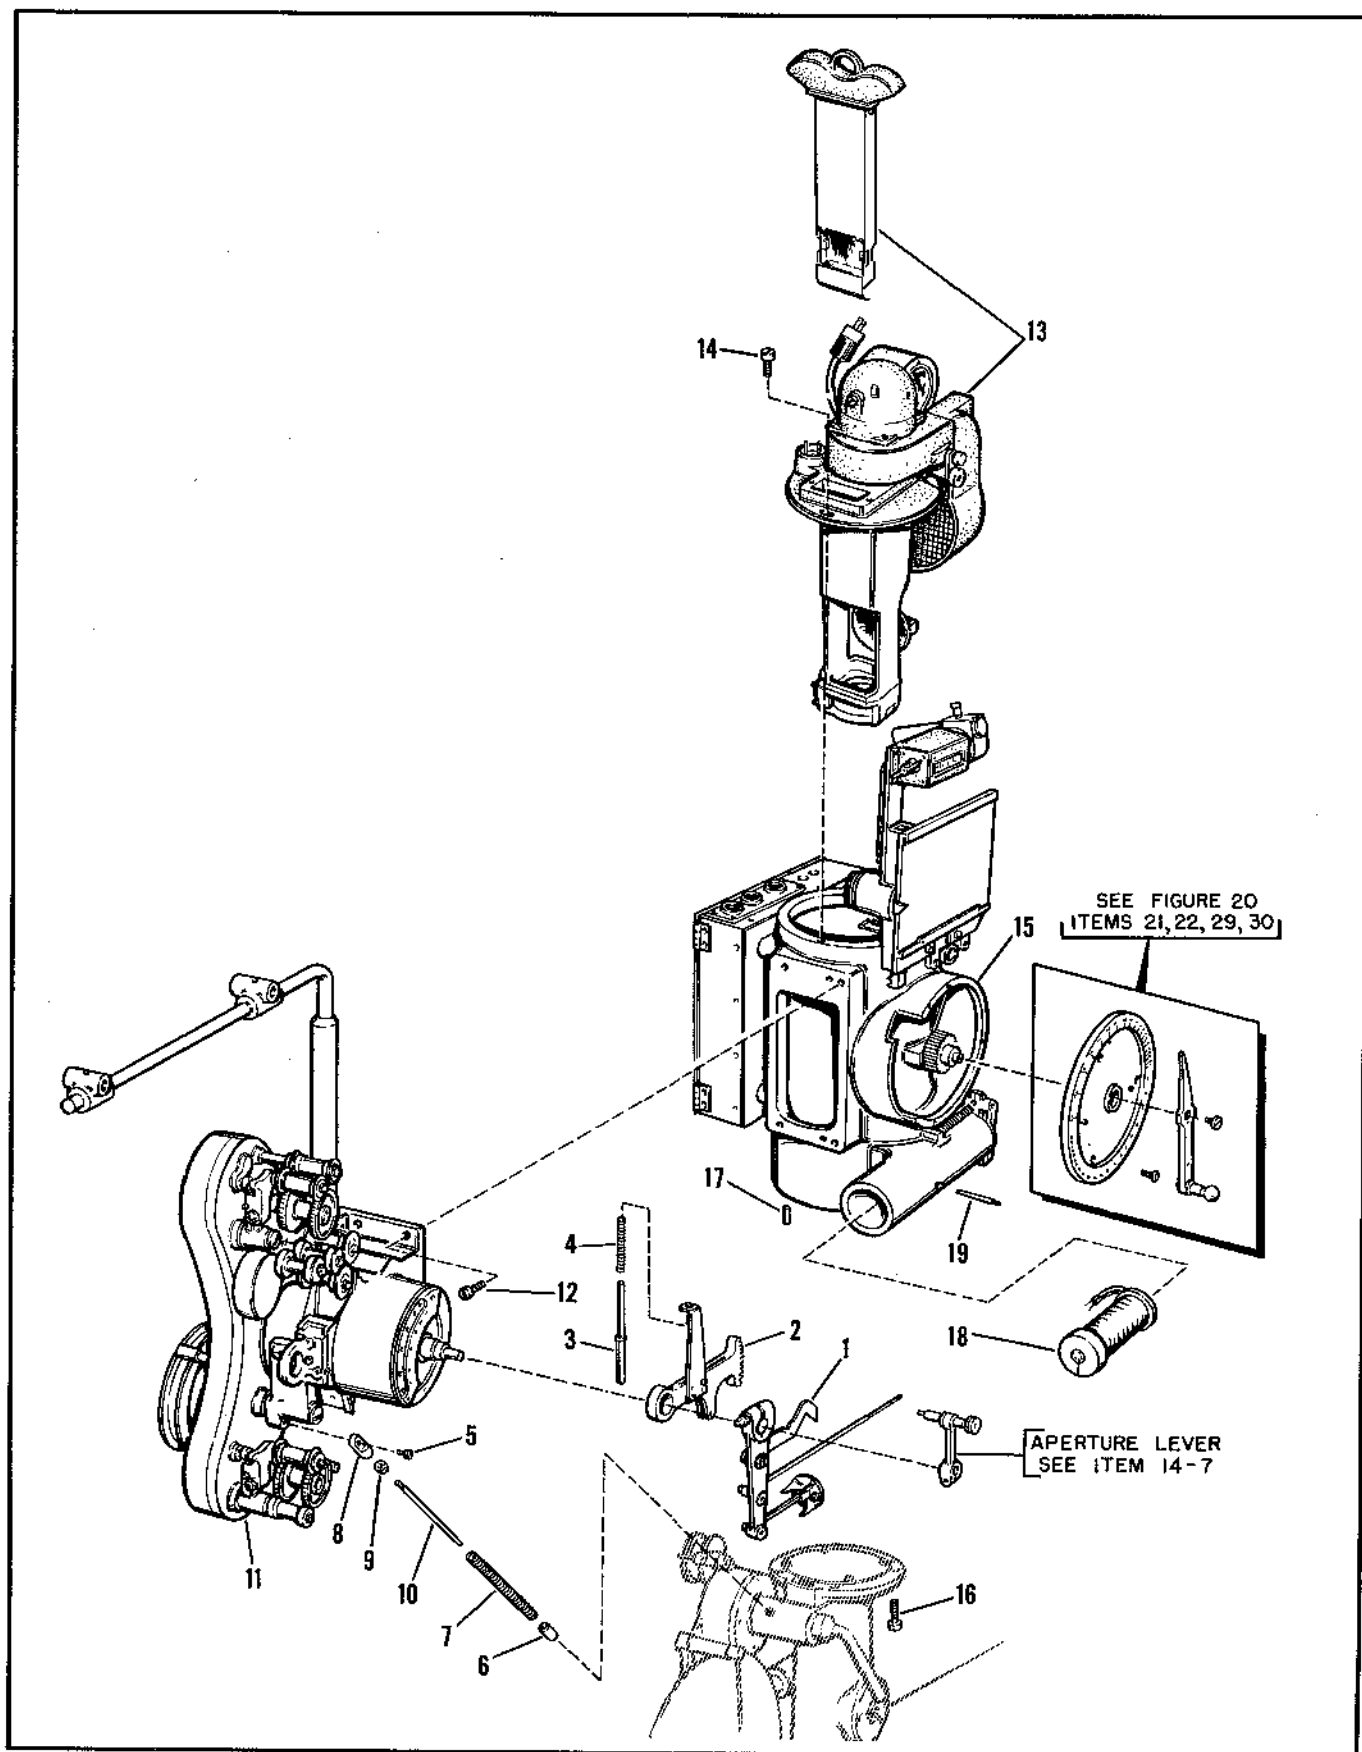

Figure 2. Printer Assembly/ Complete - Sheet 2 of 3 Sheets
b. Adjust the film clearance at the aperture lever as instructed in paragraph 23. Then reassemble the lock lever parts (5 through 10, fig. 2) to the aperture lever and printer gear case.